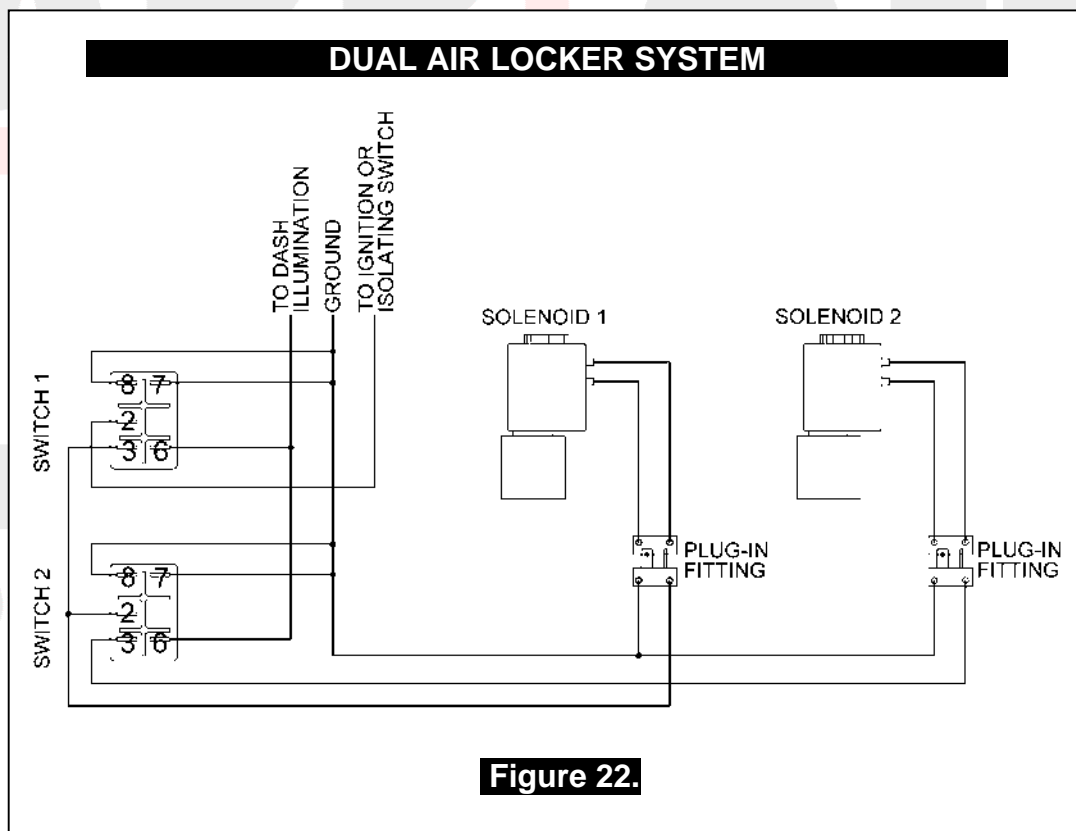

Figure 22.
- If two *Air Lockers* are to be installed in the system, ARB recommends that the switches and solenoids be wired according to figure 22. For safety reasons, this configuration allows SOLENOID 2 to be actuated only if SOLENOID 1 is already on.